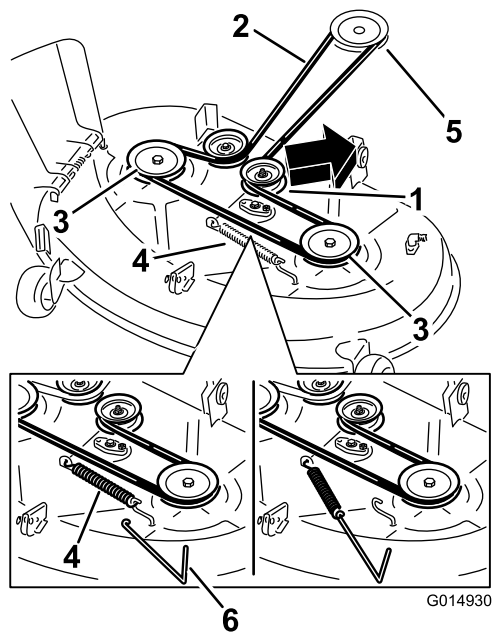

Figure 60
5. Using a spring-removal tool (Toro part no. 92-5771), remove the idler spring from the deck hook to remove tension on the idler pulley, and roll the belt off the pulleys (Figure 60).
6. Route the new belt around the engine pulley and mower pulleys (Figure 60).
- Using a spring-removal tool, install the idler spring over the deck hook, and place tension on the idler pulley and mower belt (Figure 60).